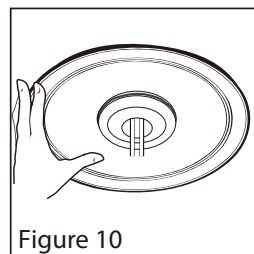

Figure 10
11. Make the electrical connection between the pigtail (M) and your fixture's electrical wires, and raise the decorative medallion and fixture canopy. Secure the canopy according to your lighting fixture installation instruction (Figure 10).